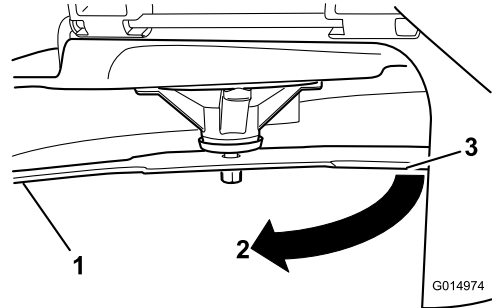

Figure 103
4. Rotate the same blade 180 degrees so that the opposing cutting edge is now in the same position (Figure 103).